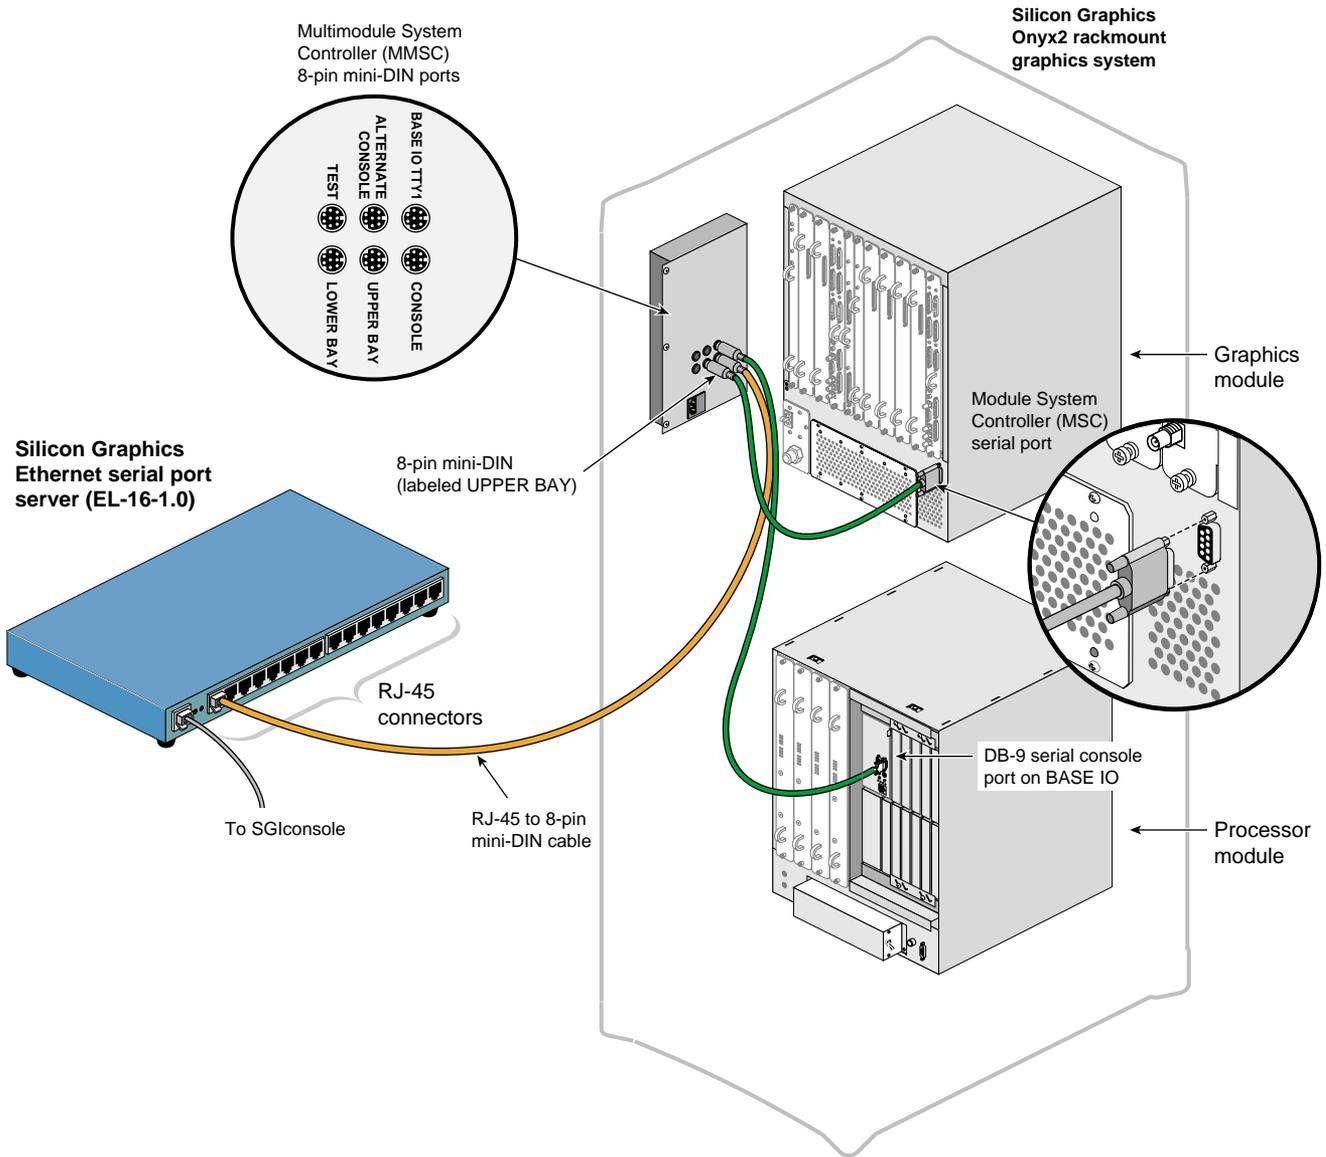

Figure 2-46 Connecting the MMSC Upper Bay Connector to the Graphics Module MSC Serial Port
7. Connect the 8-pin mini-DIN connector of the second 8-pin mini-DIN to DB-9 cable to the MMSC connector labeled "Upper Bay." Connect the DB-9 connector end of the same cable to the Module System Controller (MSC) serial port rear panel connector of the Silicon Graphics Onyx2 rackmount graphics system graphics module located in the upper bay of the rack. See Figure 2-46.